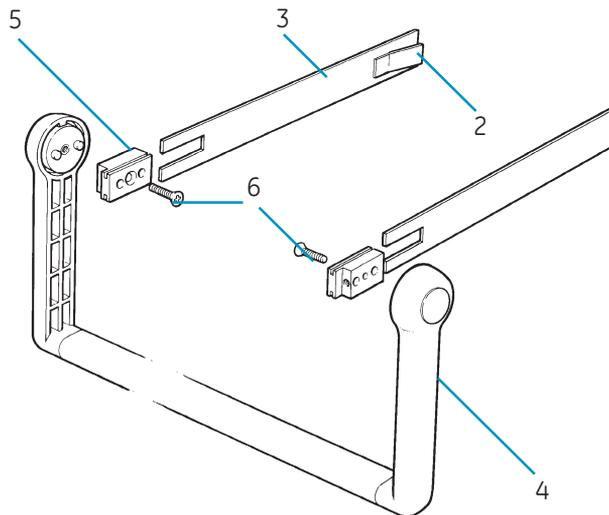

Figure 3.2 - Handle Assembly
- If the side plates (3) are stored in the side channels, release retaining spring with a screwdriver and slide out of the instrument.
- Slot the side plates (3) into the adaptor blocks (5) (see also Fig. 3.2), fit the handle across the instrument and slide in side plates until they lock.
- Remove the carrying handle from the adaptor blocks (5) by unscrewing the two countersunk socket-head screws (6) as shown in Fig. 3.2.